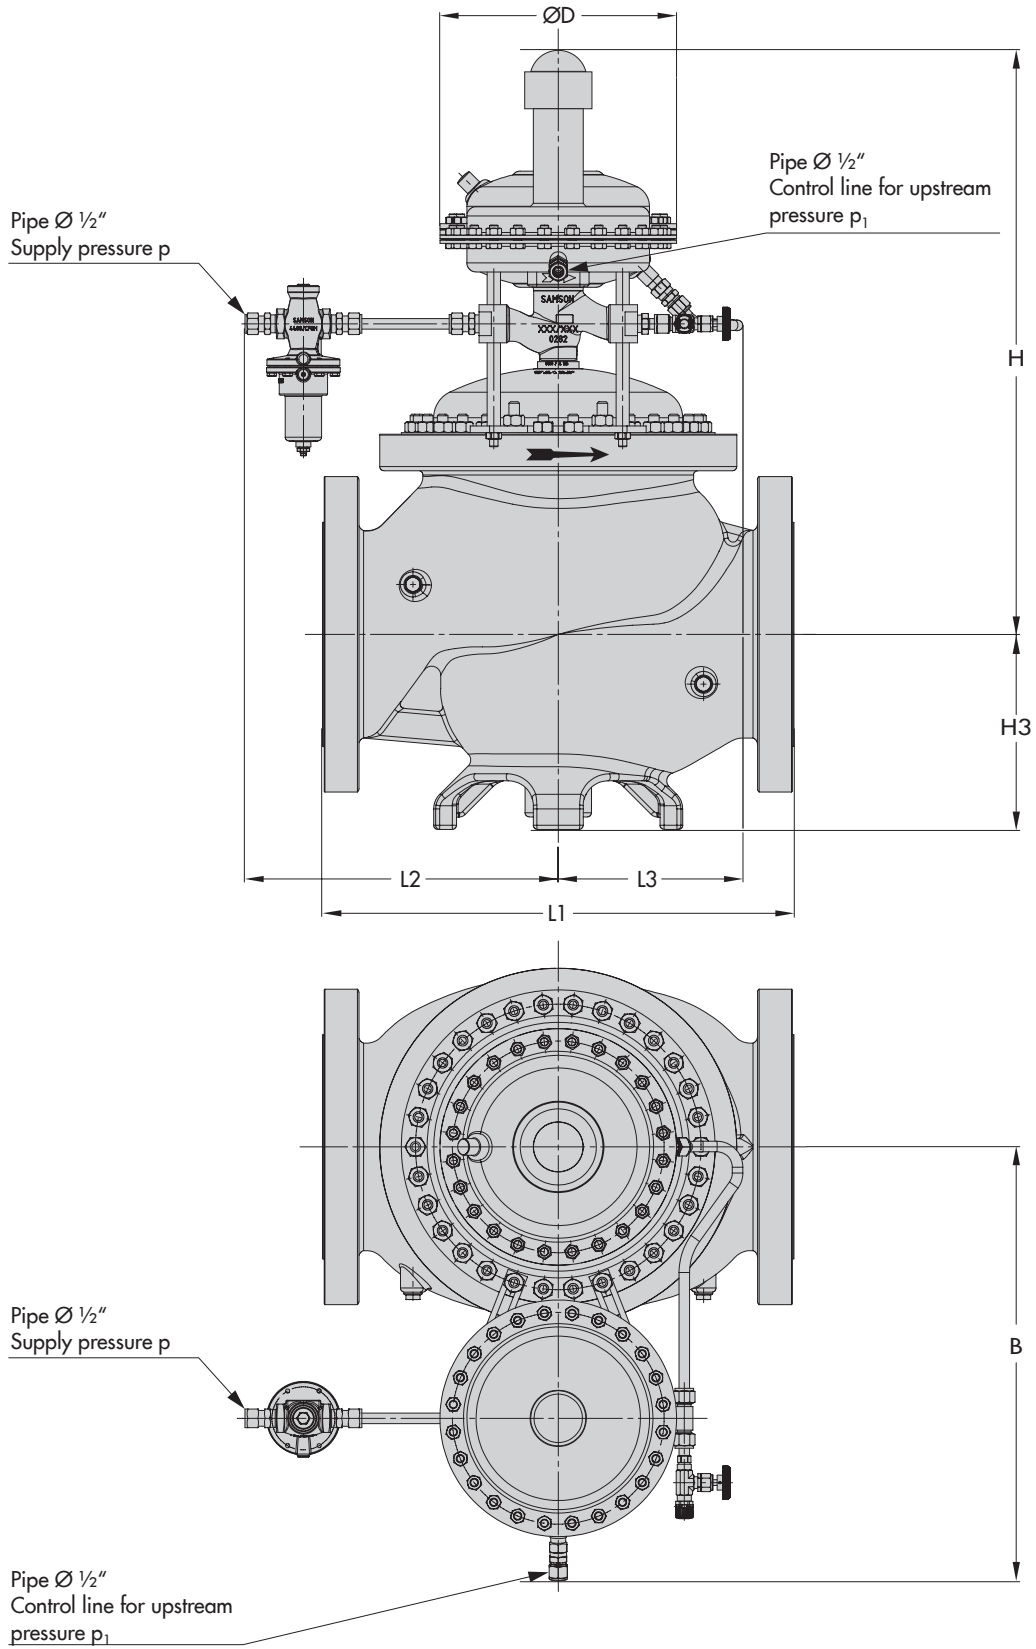
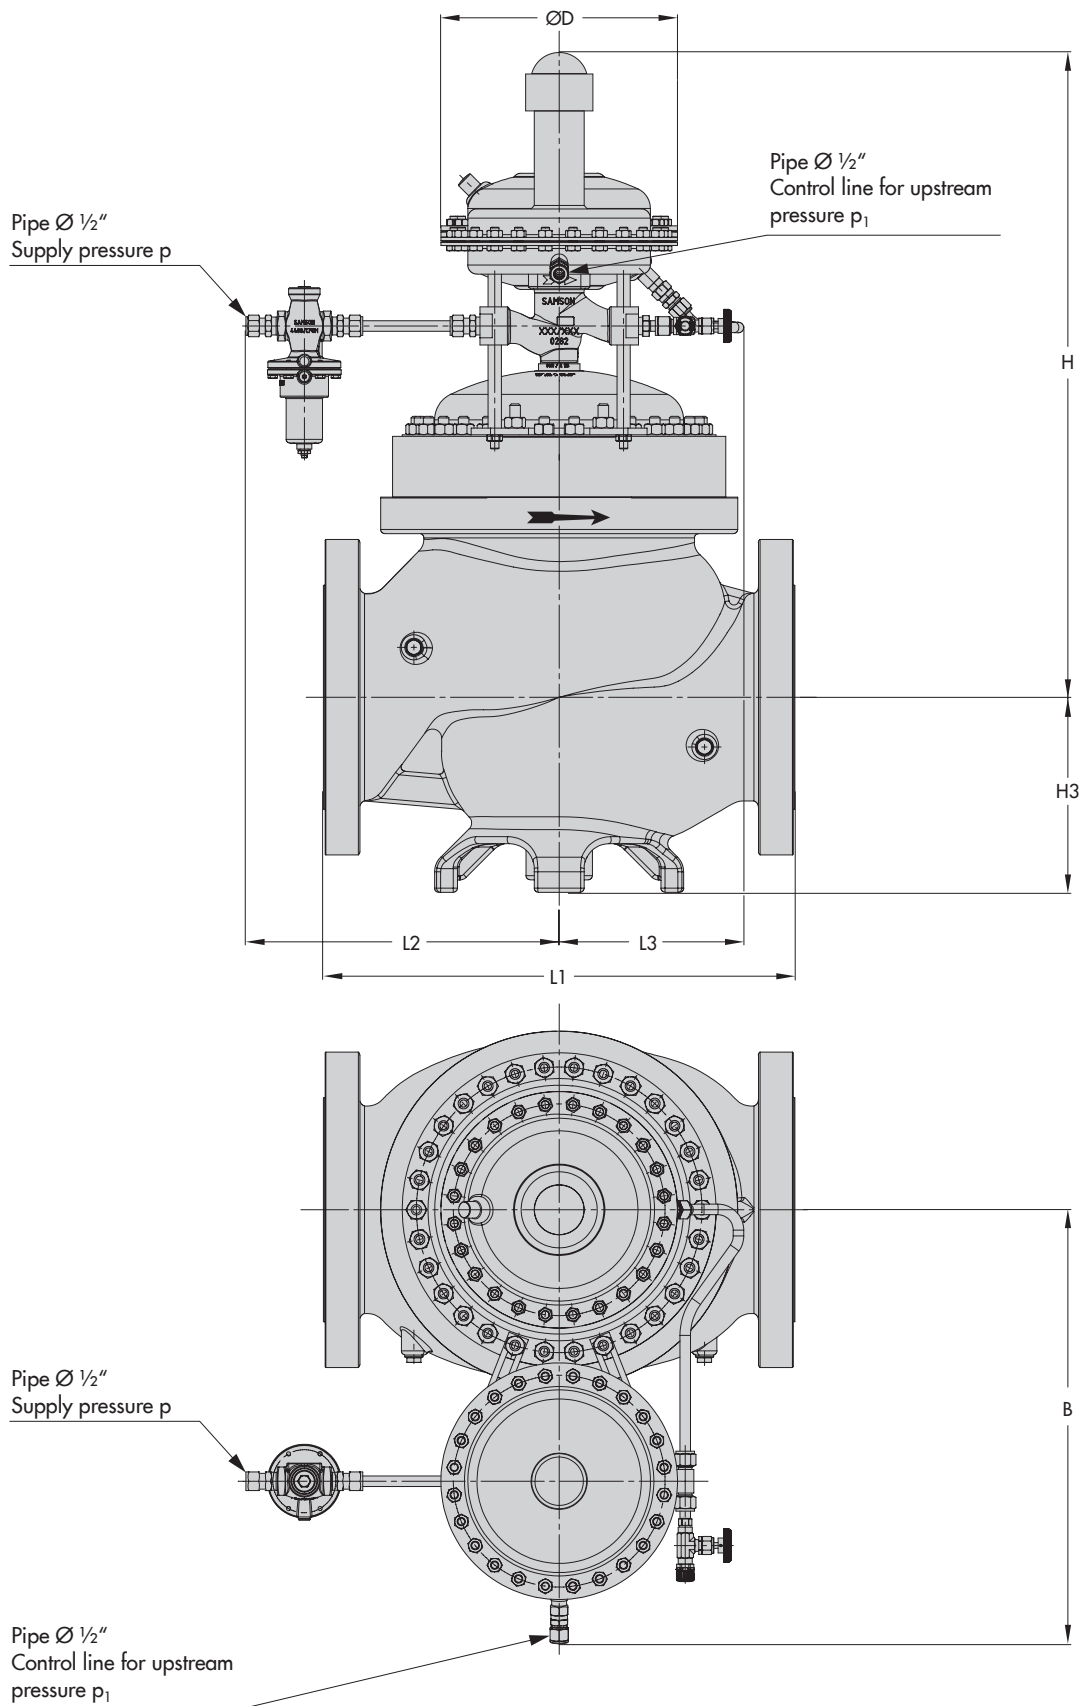

Fig. 6: Dimensions · DN 200 to 400 · NPS 8 to 16 · Versions with seal/diaphragm made of EPDM/NBR
Fig. 7: Dimensions · DN 200 to 300 · NPS 8 to 12 · Versions with seal/diaphragm made of FKM
**Table 5:** Dimensions · DN 200 to 400 · NPS 8 to 16 (see Fig. 6 and Fig. 7)